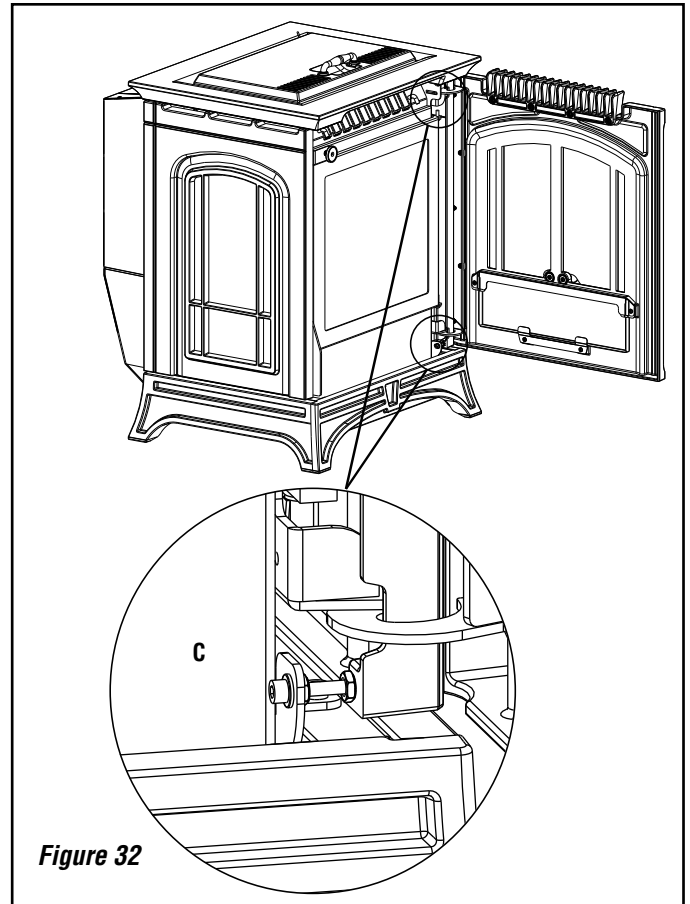

Figure 32
2. Locate the two right side door retaining screws shown in **Figure 32**.
4. Re-secure right side door by tightening the two screws shown in **Figure 32**.